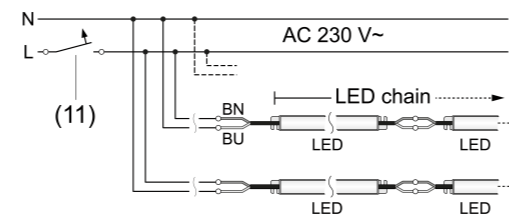

Figure 6: Circuit diagram
- Connect the light inserts according to the circuit diagram (Figure 6).